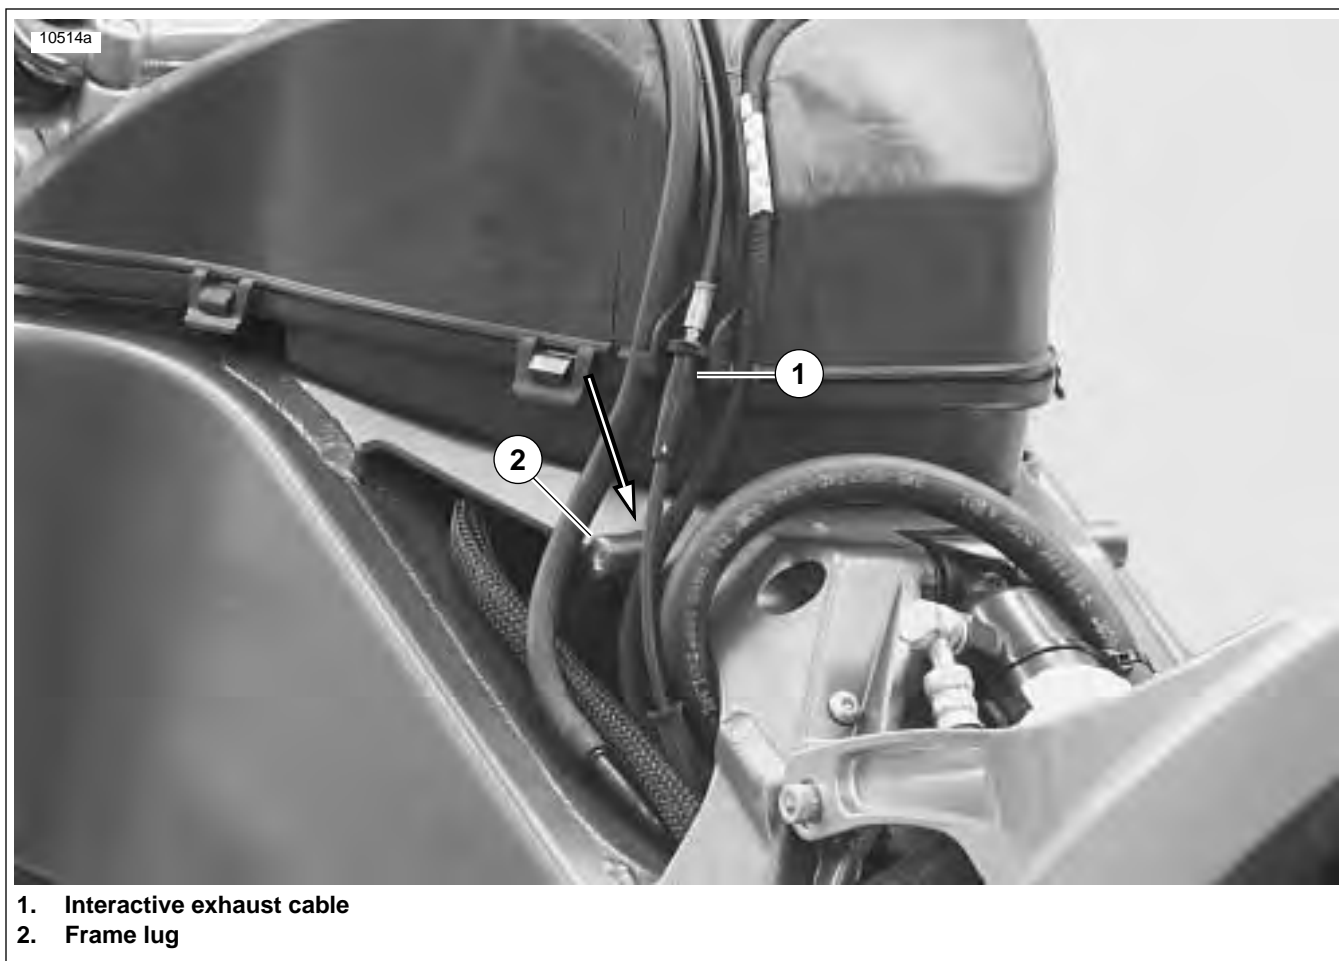

Figure 1-50. Correct Cable Routing Behind Frame Lug (Typical)
11. See Figure 1-50. Verify that the interactive exhaust cable (1) is routed behind the frame lug (2) before installing air intake cover.